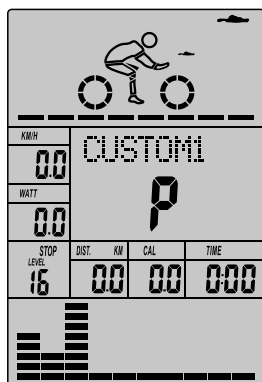

Fig 33
- The first resistance level will flash, and then press (or rotate) button UP/DOWN to set the desired load resistance. Press ENTER to confirm. Then repeat the above operation to set the resistance from 2 to 10. (Fig 33)